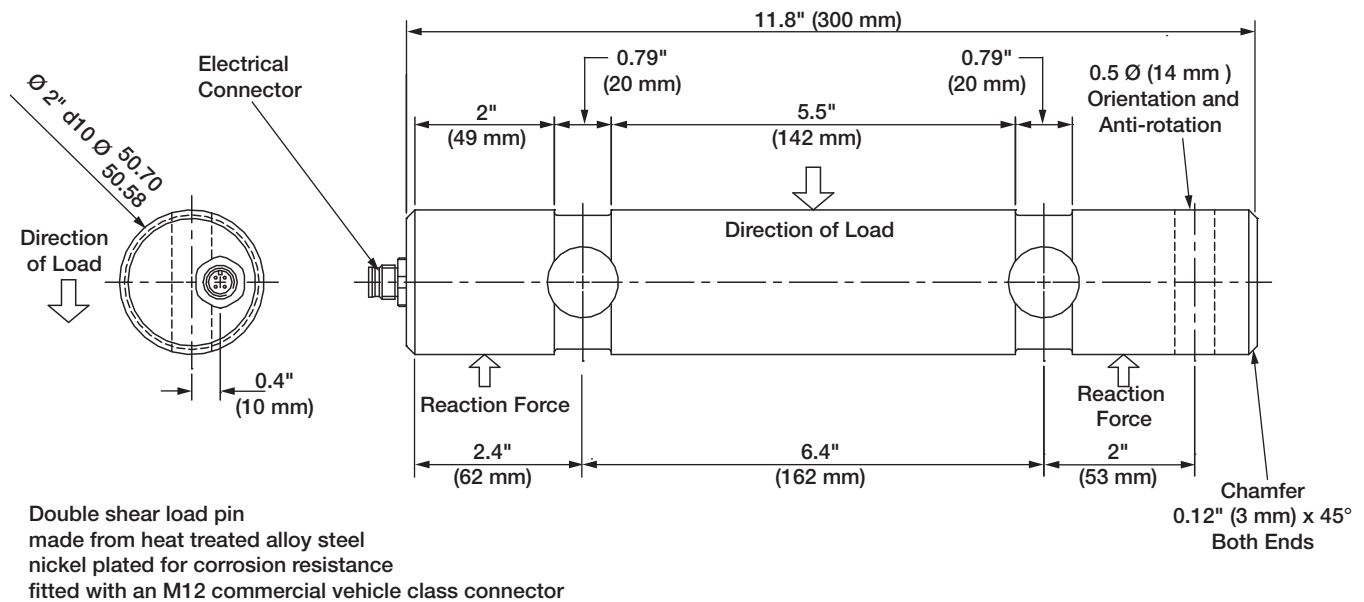

Figure 2-2. 2 Inch Diameter Load Pin (PN 131207)
- 2 inch diameter (see Figure 2-2) Dump Truck
Note See Figure 2-2 and 2-3 for load pin specifications and load direction.